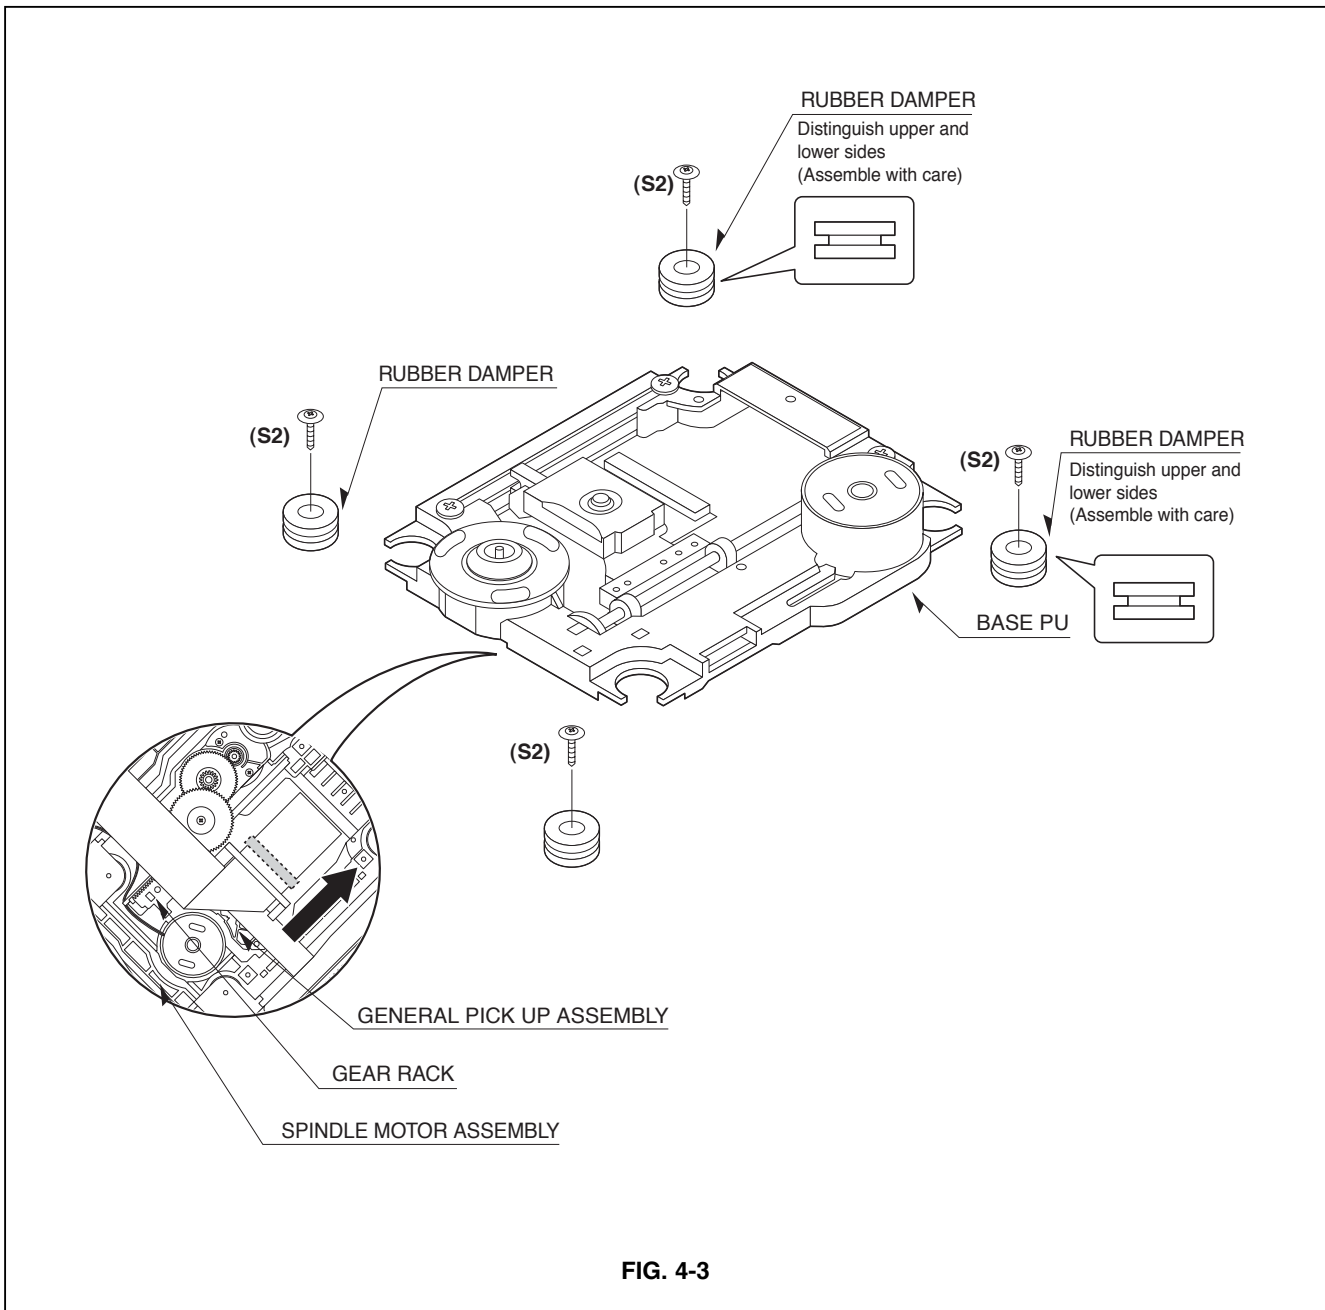

FIG. 4-3
3. BASE ASSEMBLY SLED (FIG. 4-3)
4. RUBBER REAR (FIG. 4-3)